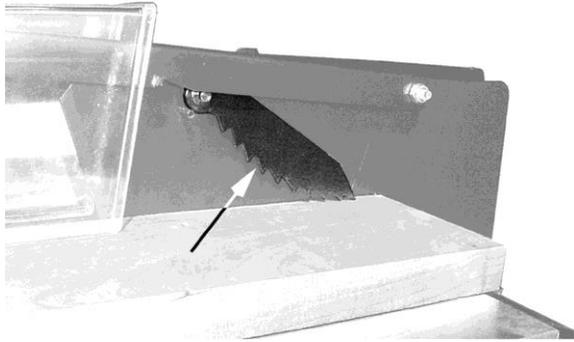

Figure 8-1
- As the machine receives use, the operation of the anti-kickback pawls should be checked periodically (Figure 8-1). If the pawls do not stop the reverse motion of a workpiece, sharpen all the points.